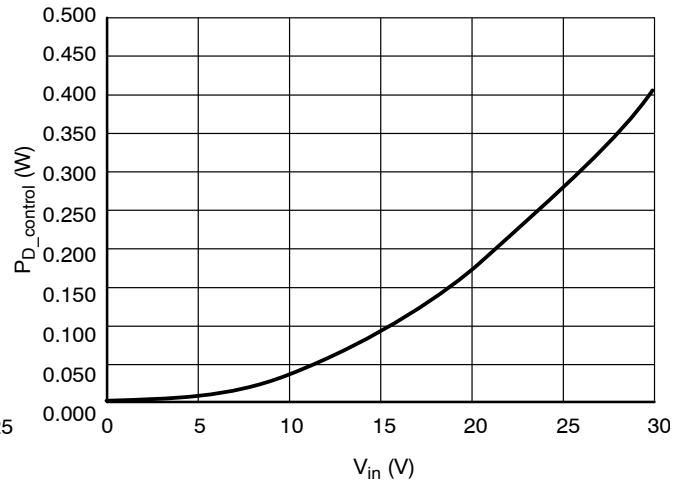

Figure 4. Internal Circuit Power Dissipation vs. Input Voltage
7. Establish Power Dissipation on the NUD4001 device's control circuit per Figure 4:
A $P_{D_control} = \text{Figure 4, for } 12 \text{ V input voltage}$